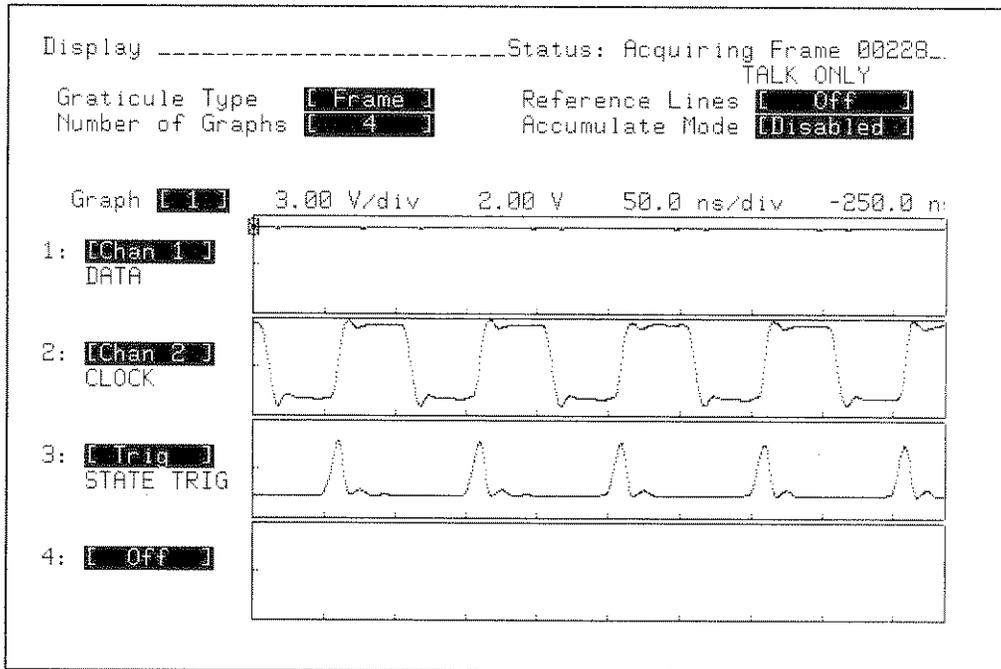

Figure 9-33. DISPLAY Configuration and Threshold Test Waveforms
10. Configure the display as shown in figure 9-33. The waveforms should appear similar to those shown in figure 9-33.
12. Increase the output of the DC Supply until the "STATE TRIG" pulses reappear as shown in figure 9-33. The DC Supply should read  $\geq 3.78$  V and  $\leq 4.22$  V.
23. Increase (more positive) the output level of the DC Supply in 0.01 volt steps until the "STATE TRIG" waveform appears as shown in figure 9-33. The DC Supply should read  $\leq -3.78$  V and  $\geq -4.22$  V.